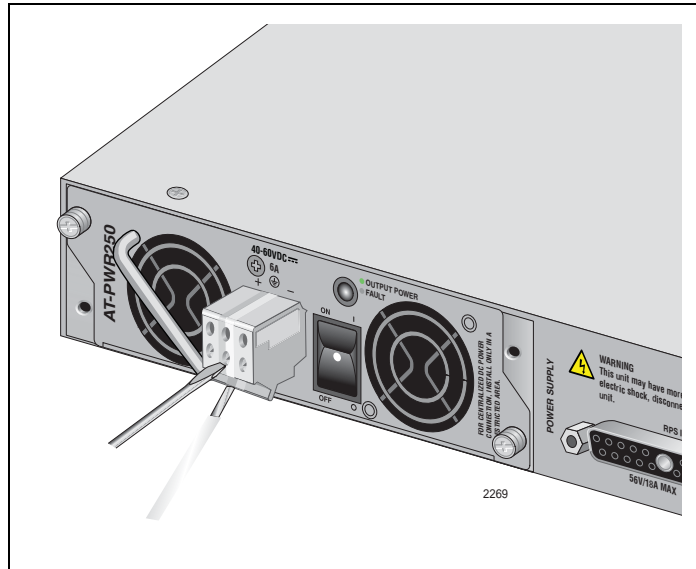

Figure 56. Inserting Wires into a DC Terminal Block
5. Insert the power supply ground wire into the middle connector of the DC terminal and tighten the connection with a flathead screwdriver, as shown in Figure 56 on page 97.